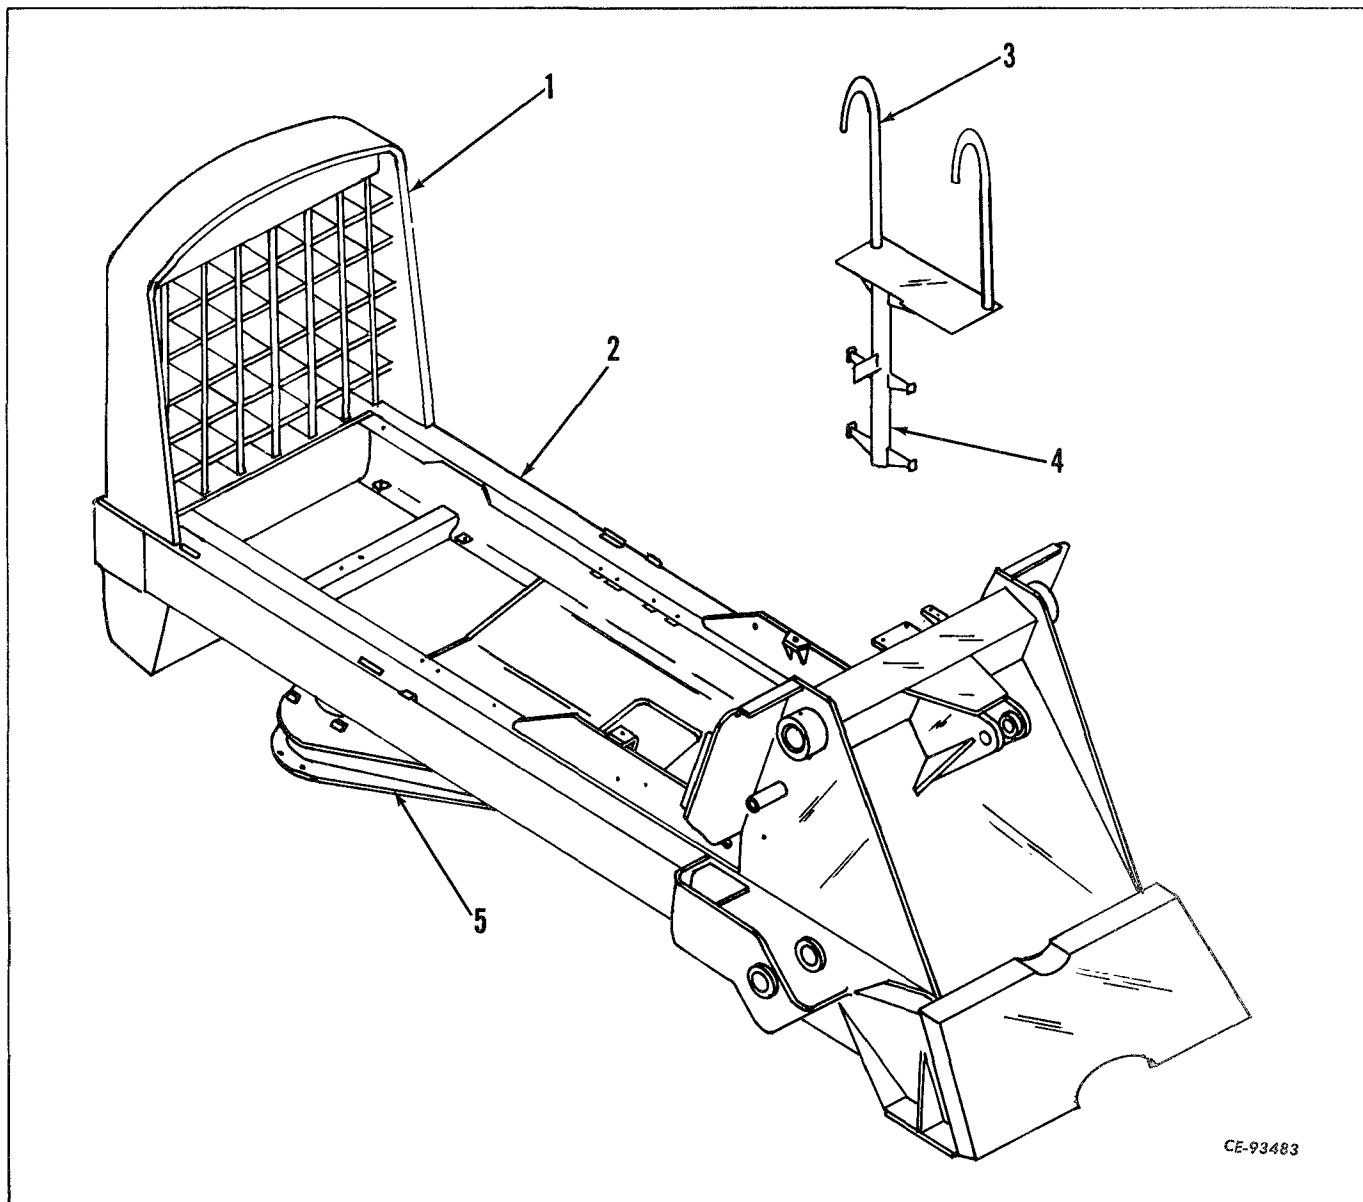

Figure 1-2
The main frame (2, Fig. 1-2) elements are composed of many smaller items welded together to form a single rigid assembly. Bushings are pressed into bores at pivot points.
sisted by the grille (1, Fig. 1-2) of the main
The operator's compartment, located in the front portion of the main frame (2, Fig. 1-2), is enclosed on the sides by the battery box and hydraulic reservoir. It consists of the operator's seat assembly (2, Fig. 1-4), seat mounting (1), floor boards (3 and 5) and mounting strip (4).